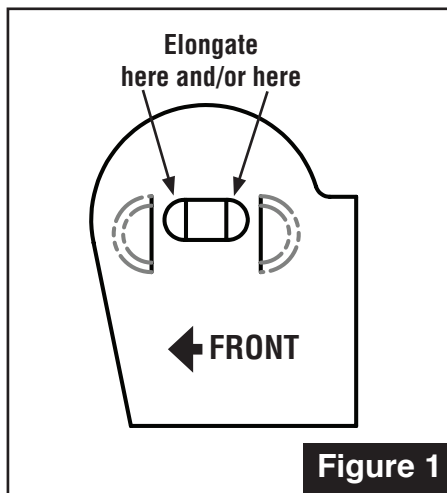

Figure 1
3. Use rotary file (SPC #85130 or similar) to elongate factory holes approximately 5/16" [8mm] to provide for pinion angle adjustment. To raise pinion, elongate slots towards the front; to lower pinion, elongate towards the rear. (**Figure 1**)